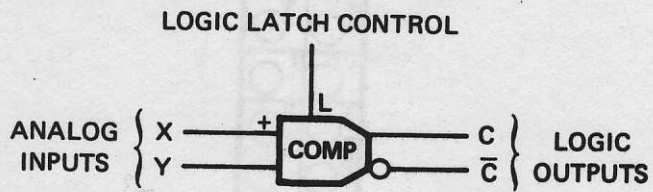

Figure 5.18 Comparator: Typical Programming Symbol
As illustrated in Figure 5.18.
- With reference to Figure 5.18, the logic output (C) indicates whether the difference (X-Y) is positive or negative. The following expression describes the Comparator output: